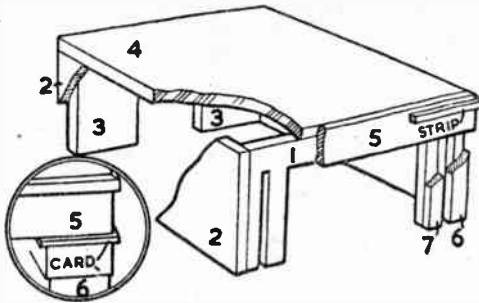

Fig. 1—Parts of the main booking hall
Fig. 1. Four sides form a box frame with a flat roof piece (4) on top. Notice the columns on the front at (6) and (7). Part (5) is glued in line with the top surface of the roof which provides a narrow opening above the columns.
This is to allow the strip of paper or thin card between the two parts. It projects about $\frac{1}{4}$ in. to form a capping piece, and a similar strip of card is added round the top and bottom of the pillars themselves. These card strips are $\frac{1}{2}$ in. wide at the bottom of the column, and $\frac{1}{4}$ in. wide at the top. Remember to carry them round the sides of the column as well as the front and back. $\frac{1}{4}$ in. square stripwood is also supplied, which is glued on part (5) $\frac{1}{4}$ in. downwards from the roof and carried $\frac{1}{2}$ in. round the sides. The corners are mitred, as shown in the detail at Fig. 1.